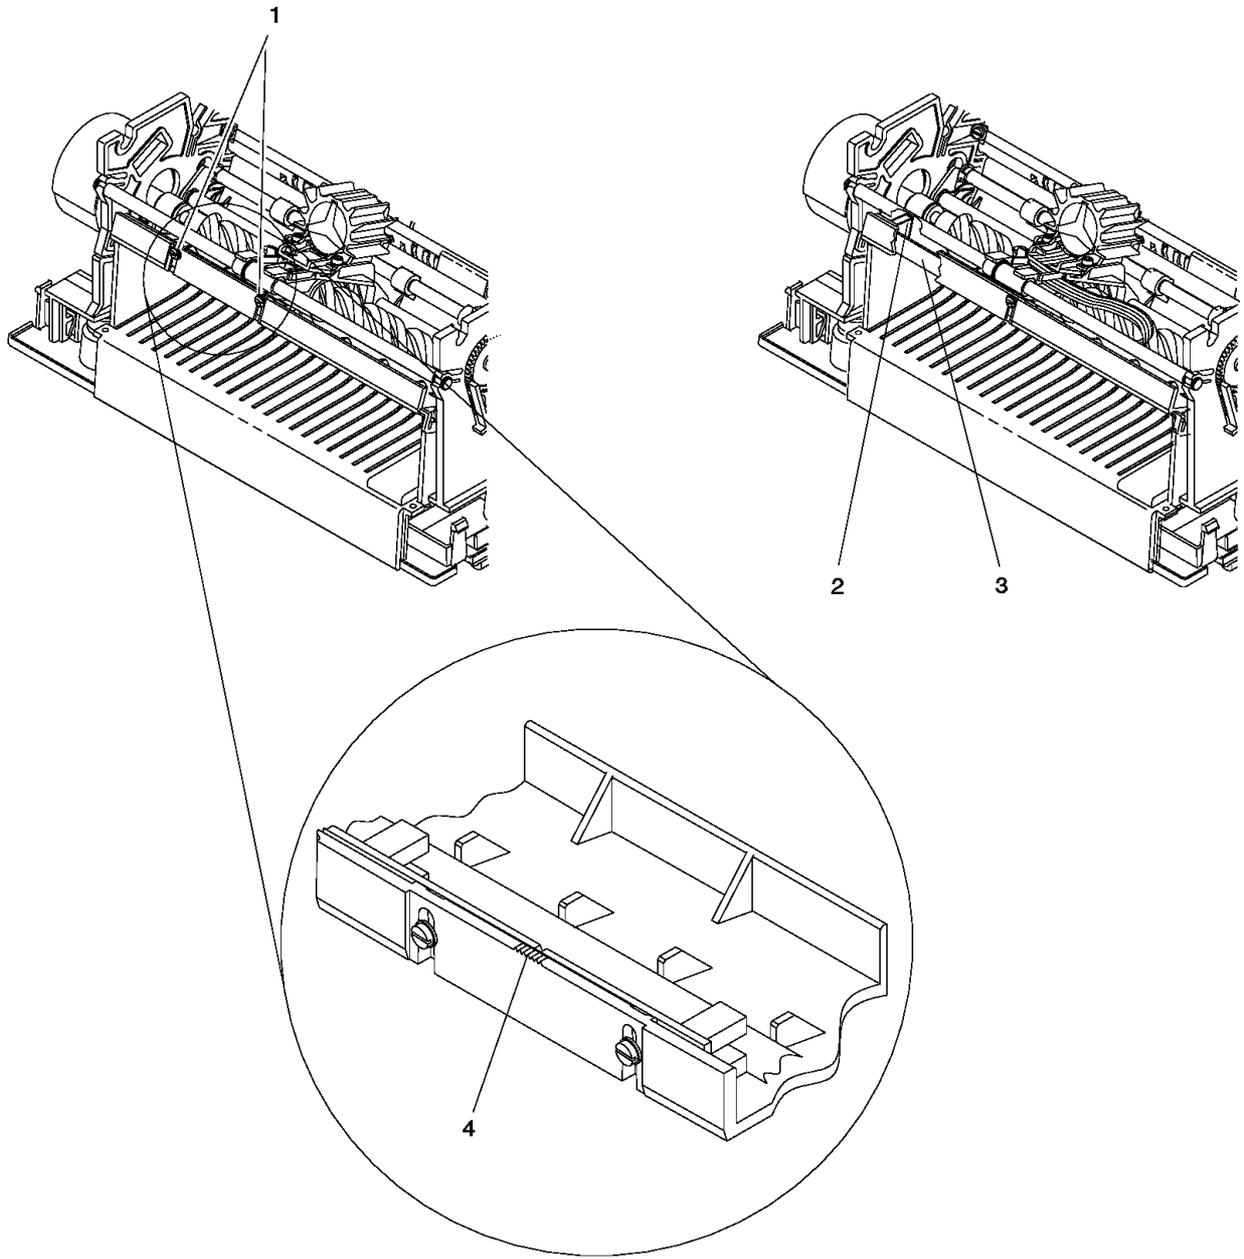

Figure 6-84. Home Sensor Card
4. Disconnect the sensor cable from the home sensor card. See Figure 6-84 in topic 6.38.32.2. The cable is located on the far left side of the card. Make note of how the cable is routed for reinstallation.
5. Mark the location of the two screws (1) on the upper forms guide to establish the location of the home sensor card.
6. Mark the notch in the edge of the upper forms guide (4) that is closest to the groove in the top edge of the home sensor card.
7. Remove the two screws (1), flat washers, and back-up nut plate.
8. Lift the home sensor card (3) out of the printer.